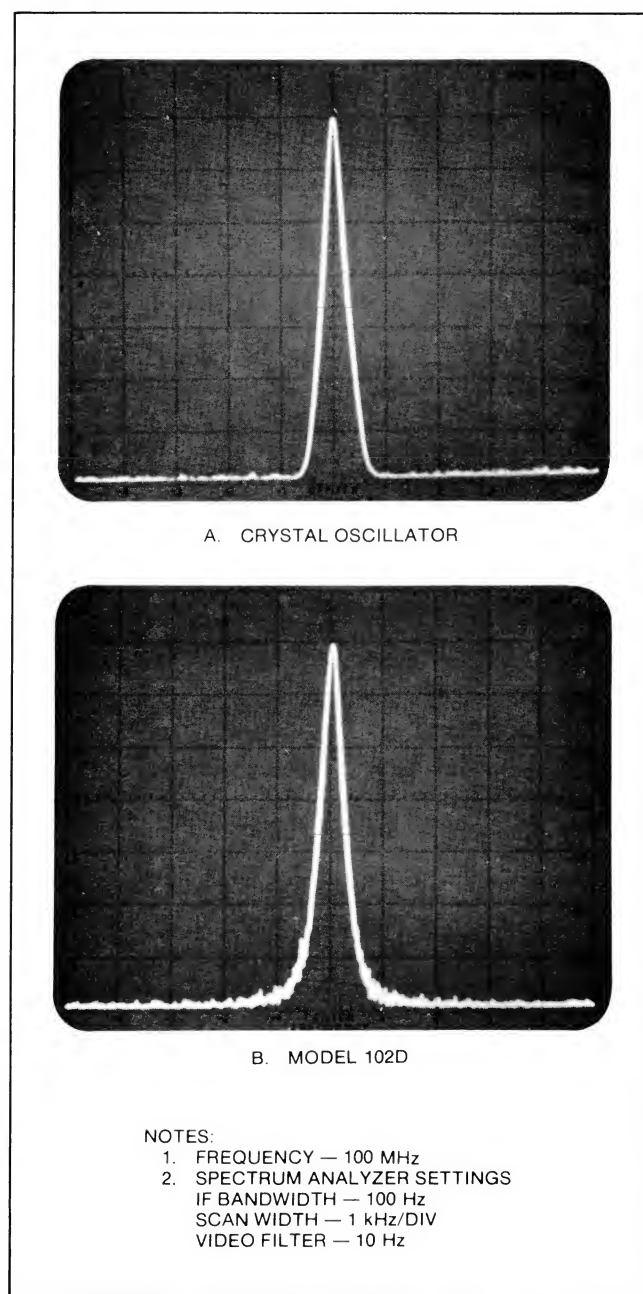

Figure 1-2 Spectrum Comparison, Model 102D
a. **Spectral Purity.** The spectral purity of the Model 102D is comparable to that of a crystal oscillator. (See Figure 1-2.) The output frequency is derived from an inductively tuned VFO with inherently low microphonism. Appropriate filters are electronically switched into the frequency generating circuits by means of PIN diodes to further suppress spurious frequencies. The suppression of harmonics and other spurious frequencies provides assurance that test results obtained using this instrument will reflect selected test parameters only; erroneous test indications resulting from spurious frequencies are unlikely.